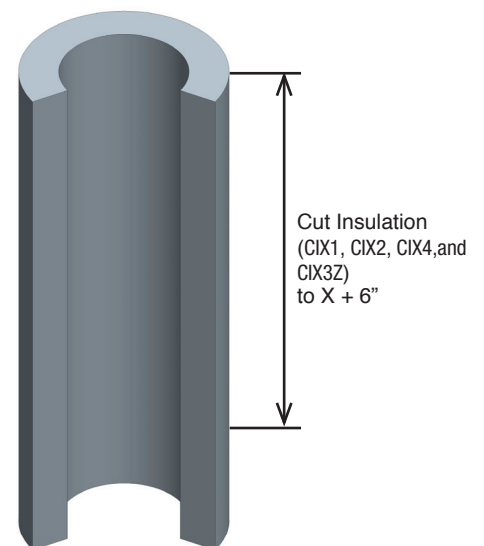

Figure 24c - Step 4 - Cut of the Insulation
4. Then cut the insulation band at dimension X + 6" (CIX1, CIX2, CIX4, CIX3Z). See Figure 24c.